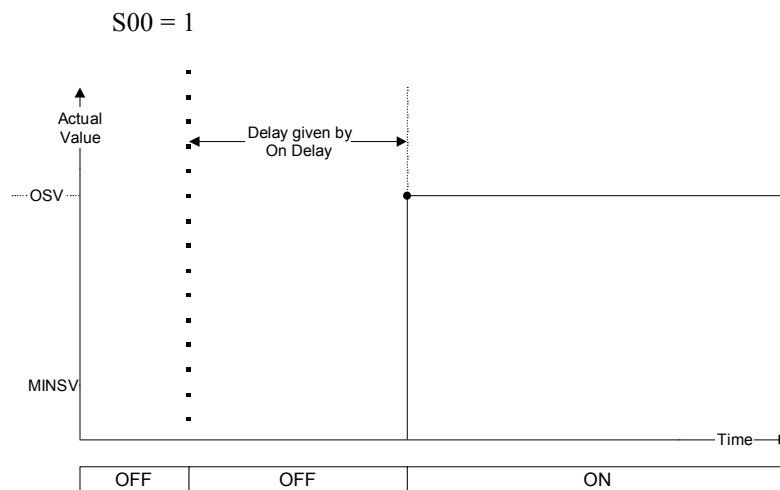

Figure 10 - Timing with parameter OND
- “On Delay” (OND): shall delay transition from OFF to ON or from OFF to DIMMING by the specified time (Figure 10 shows transition from OFF to ON).